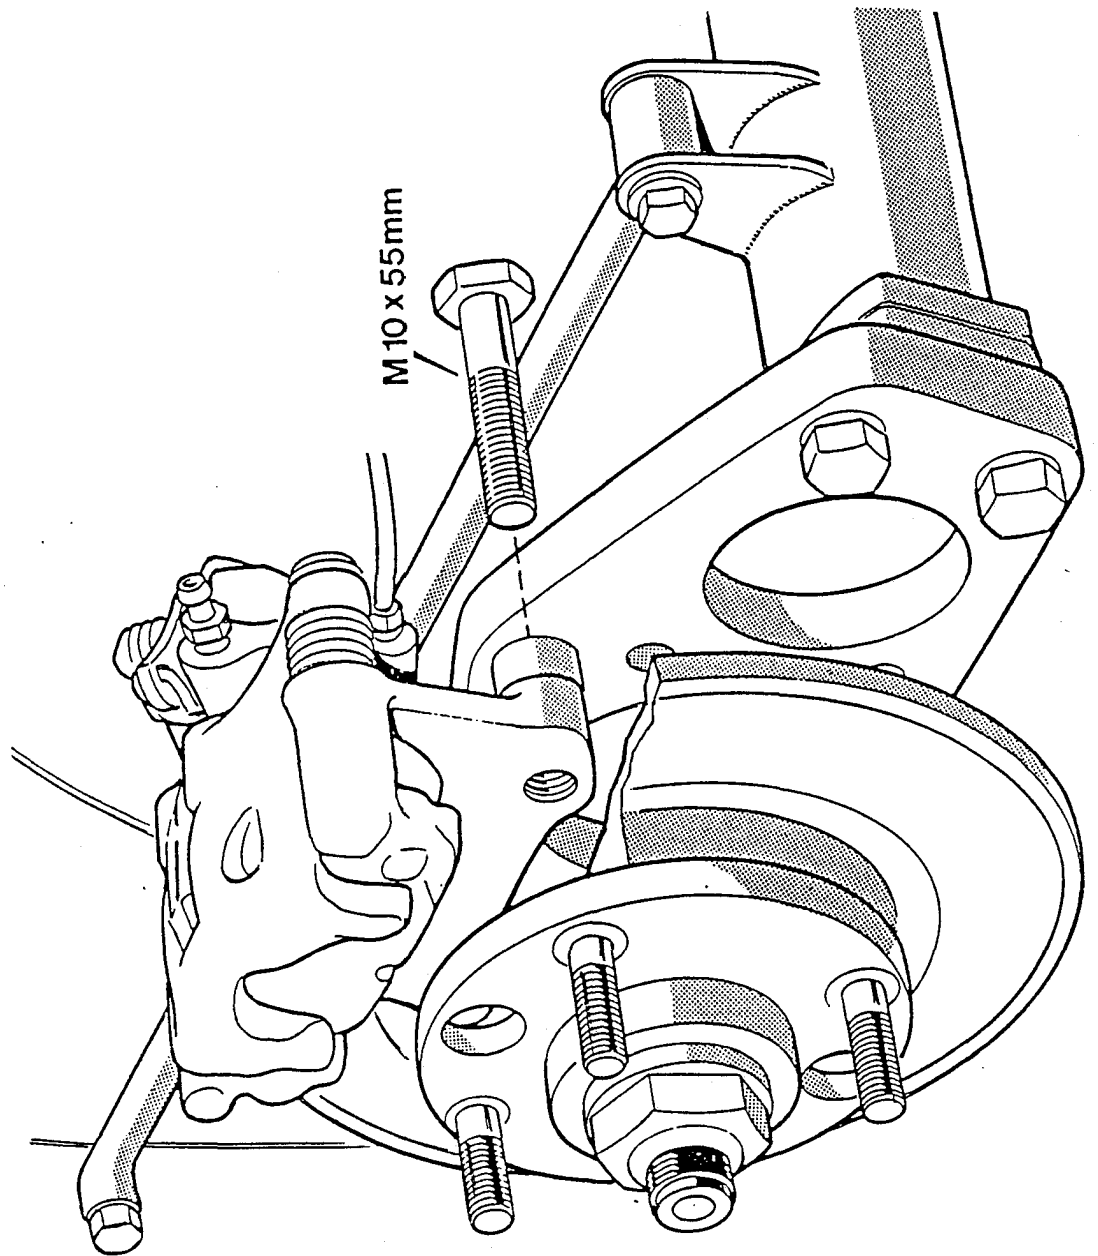

Fig. 7.3.8
3.8 The brake calipers are handed and should be fitted with the handbrake cable abutments towards the front of the car. Slide over the disc, separating the brake pads, and bolt into place on top of the De Dion ears using the 10mm x 55mm bolts, plain and locking washers with the spacers fitted between the ear and the caliper. Loctite should be used and the bolts tightened to 35 lb ft. (see Fig. 7.3.8.)